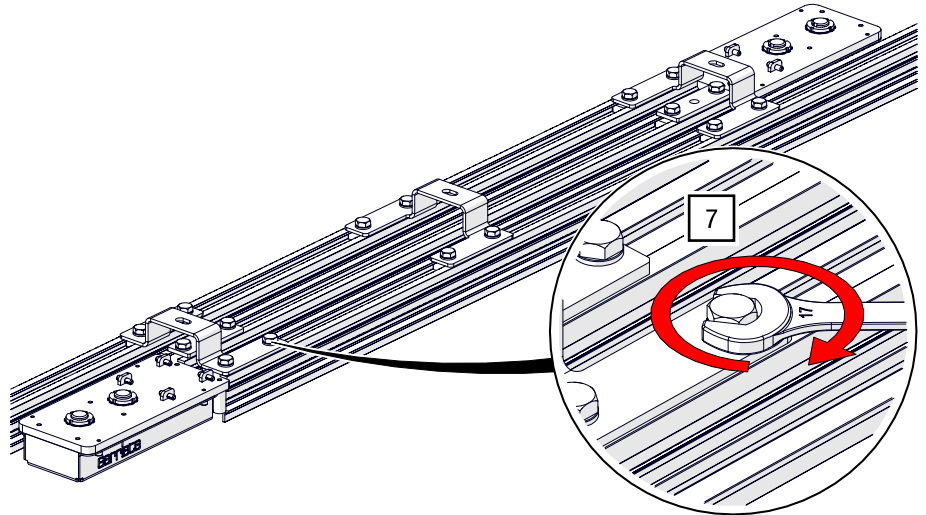

Fig. 63: Crossover unit – Tighten screws of the suspensions
7. Tighten all screws with an open-ended spanner AF 17 (see Fig. 63).